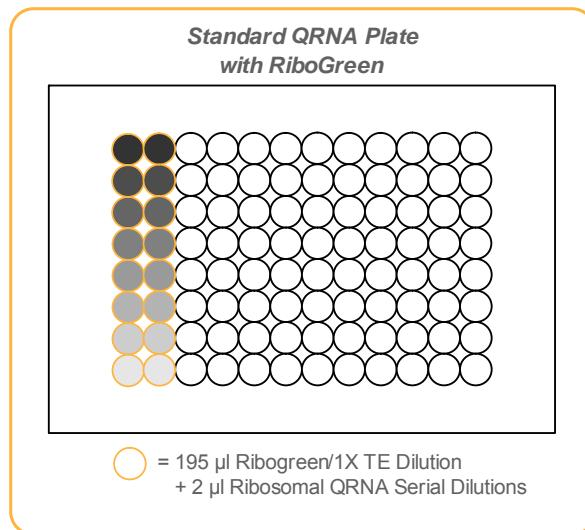

Figure 66 Standard QRNA Plate with RiboGreen
4. Using an 8-channel pipette, transfer 195 μl RiboGreen/1X TE dilution into each well of columns 1 and 2 of the Standard QRNA Fluotrac plate (Figure 66).